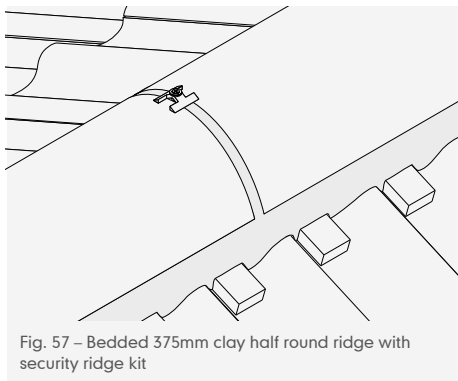

Fig. 57 – Bedded 375mm clay half round ridge with security ridge kit
- 2 Mortar bedded ridges should also be mechanically fixed using Marley mortar bedded security ridge fixing kits and 100mm x 4.8mm screw packs for deep ridges (Fig. 57).